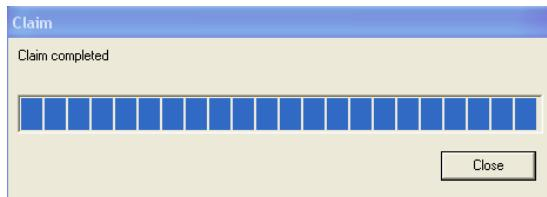

Figure 7: Claim Dialog Box
- After the claim process is complete, SP3D displays the **Claim** dialog box, as shown in Figure 7. Click **Close** to close the dialog box.